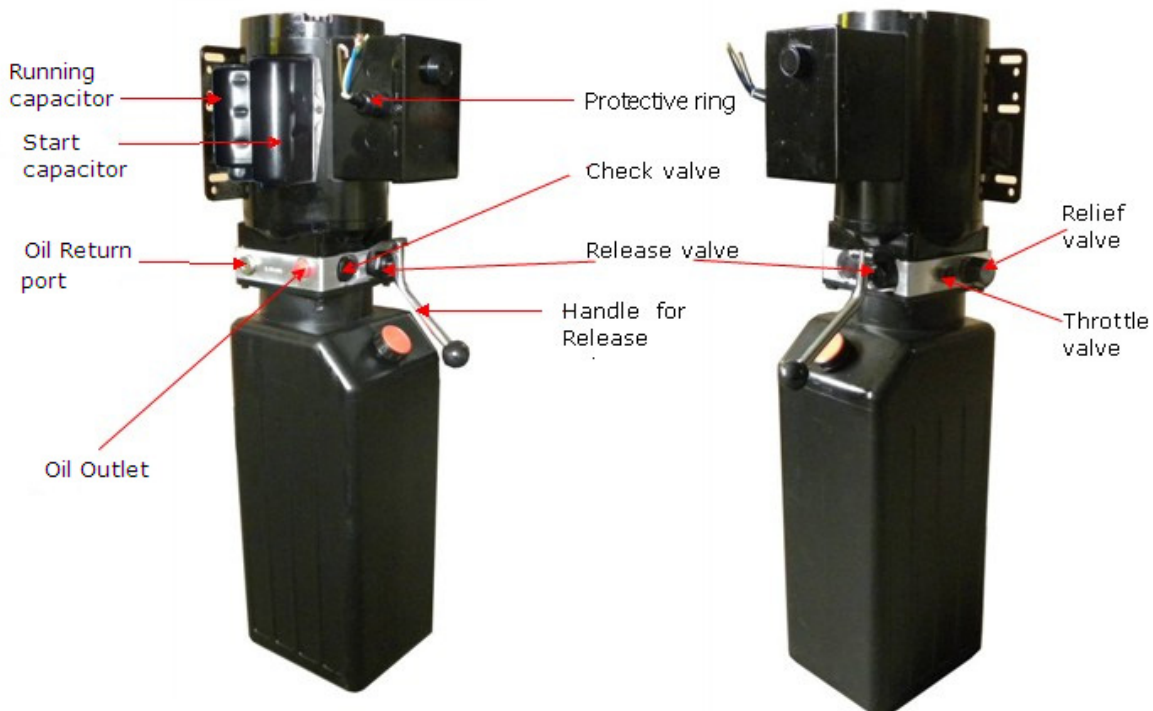

Fig. 46
B. ATLAS hydraulic power unit (See Fig. 46)